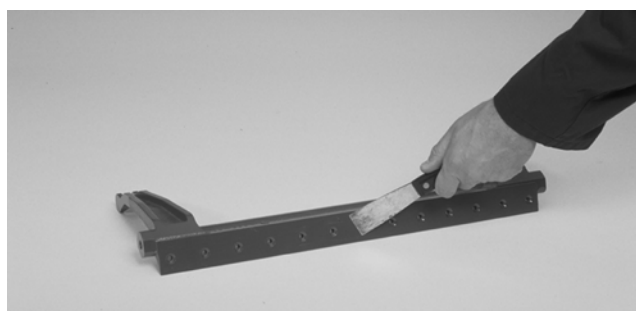

Figure 33
3. Use a scraper to remove all rust, scale and corrosion from bedbar surface before installing new bedknife (Fig. 33).